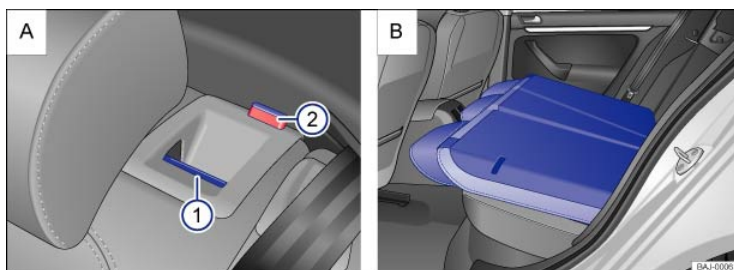

Fig. 72 : Rear seat backrest: Release button ① and red mark on the indicator ②. : Seat backrest folded forward.
- Pull the release button ⇒ Fig. 72① forward to release the rear seat backrest.
The rear seat backrest is unlocked if the red mark ⇒ Fig. 72② can be seen on the indicator.
- Fold the rear seat backrest back until it latches securely ⇒ . The red mark on the indicator ⇒ Fig. 72② should no longer be visible.
- If the red mark on the indicator ⇒ Fig. 72② is visible, this indicates that the backrest is not latched into place. Always check to make sure that the red mark is not visible whenever the rear seat backrest is in the upright position.